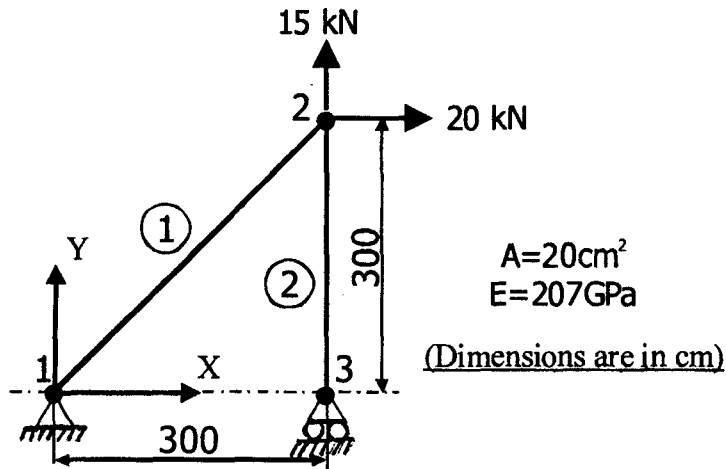

Fig. 1
- b) Compute the displacement components at nodes 2 and 3 for the plane truss shown in Fig. 1 using the direct stiffness method. Obtain the global equation set and state the boundary conditions. The stiffness matrix of a plane truss element may be taken as